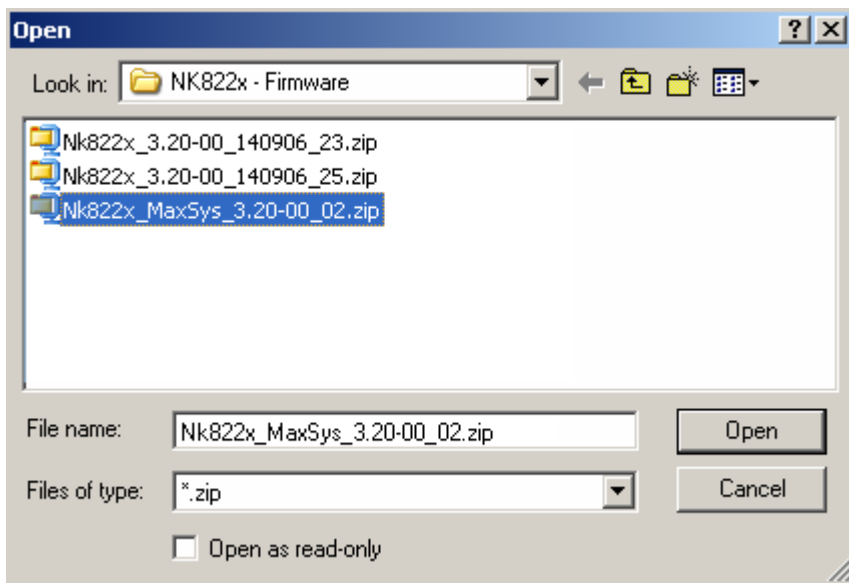

Fig. 10 Opening the new NK82xx firmware files
- And finally click **Open** (Fig. 10).
In case multiple add-on packages have been installed, then all the associated firmware files can be safely downloaded in sequence (each of them being a single additional DLL) as long as the base NK82xx version is the same (e.g. “...3.20...”). Please check the base firmware version in the firmware list (Fig. 10) before selecting the add-on file to download. Also, get informed about latest compatibility issues in the most recent NK8000 Release Notes.